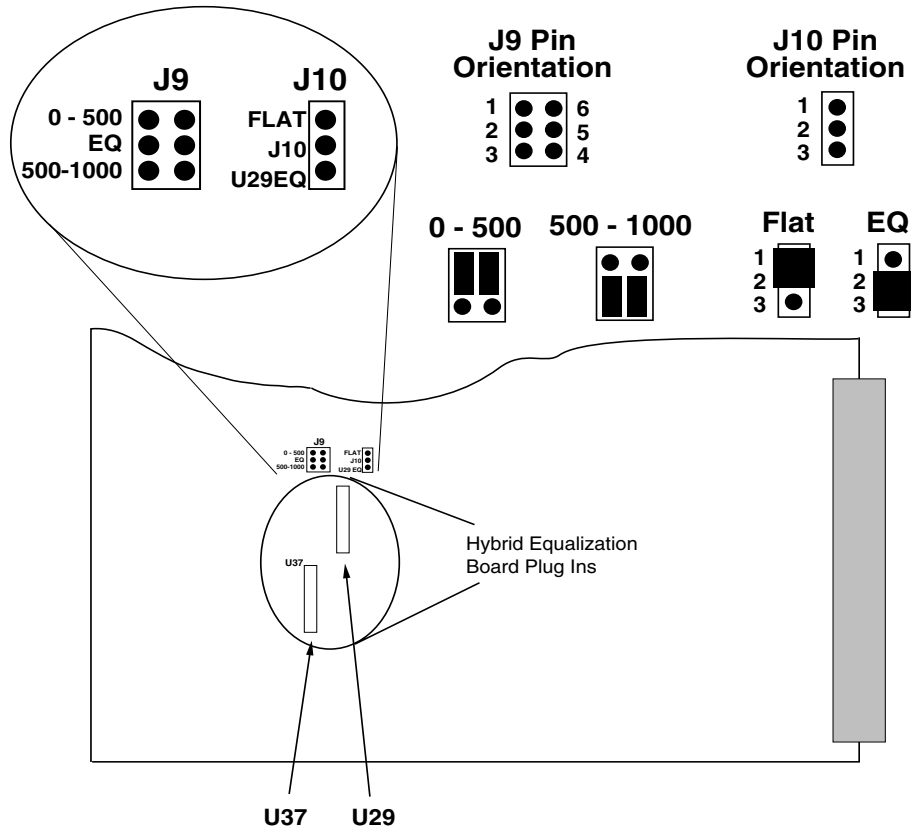
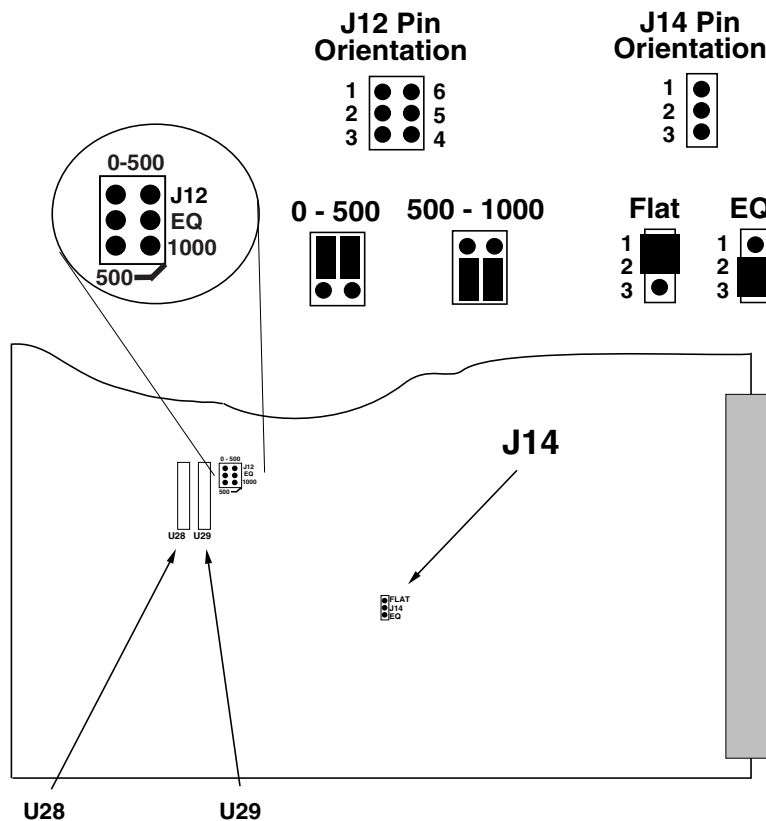

Figure 2-43. Video (only) Input Module Cable Equalization
Figure 2-44. Video (only) Output Module Cable Equalization
The EQ potentiometer is enabled/disabled by a jumper at either J10 (on a Video Input module) or J14 (on a Video Output module). See Figures 2-43 and 2-44 for jumper locations on the modules. If equalization is flat (no equalization necessary), EQ is disabled by installing the jumper block across positions one and two. This setting is the factory default. To enable EQ, install the jumper block across positions two and three.
For a Video Input module, Figure 2-43 illustrates the locations of the EQ jumper J10, the Hybrid board plug-ins, and the Hybrid boards' jumper, J9. Table 2-8 on page 2-47 lists the Hybrid boards by cable I.D. for U 37 (0–500 feet) and U 29 (500–1000 feet).
The procedure for installation of the Hybrids and jumper blocks follows. Figure 2-44 and the table titled Video Input Cable Equalization Hybrids on page 2-47.
For a Video Output module, Figure 2-44 illustrates the locations of the EQ jumper J14, the Hybrid board plug ins, and the Hybrid boards' jumper, J12.
A procedure for installation of Hybrids and jumper blocks follows Figure 2-44 and Table 2-10 on page 2-66.
For the following procedure, refer to Figure 2-43 and Table 2-8 on page 2-47 for a Video Input module and to Figure 2-44 and Table 2-10 on page 2-66 for a Video Output module. Install equalization Hybrid boards and jumper blocks per the following steps:
1. Remove the appropriate Video Input/Output module and place on a flat, level, static-free surface with the orientation as shown in either Figure 2-43 or 2-44.
2. To enable the EQ potentiometer on either J10 (for the input module) or J14 (for the Output module), move the jumper from pins 1 and 2 and place it over pins 2 and 3. (See either Figure 2-43 or 2-44.) If no Hybrid is to be installed, skip to Step 5. Otherwise, proceed with Step 3.